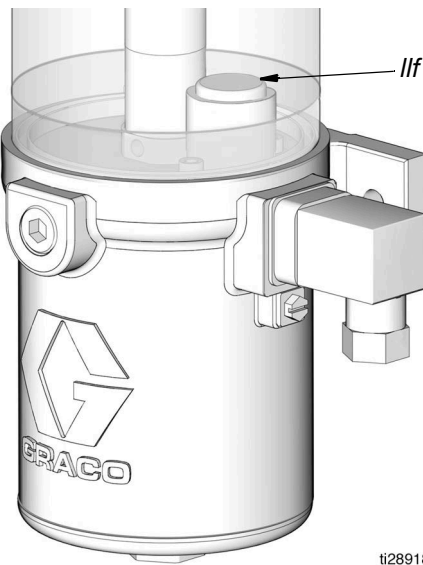

FIG. 10: Low level float in fully traveled down position
As oil is dispensed, the low level float travels down. When the oil in the reservoir reaches low level, the fully traveled down float (FIG. 10) closes the normally open low level switch and a low level signal is sent to the lubricator controller (J).